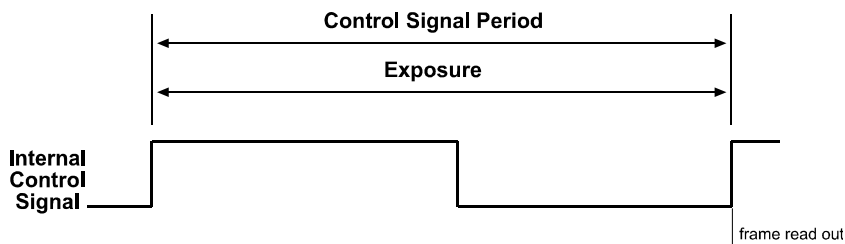

Figure 4-5: Free-run Edge-controlled Mode
- In **free-run edge-controlled mode**, the camera generates a continuous internal control signal based on the "Frame Period" parameter. The pixels are exposed and charge is accumulated over the full period of the internal control signal (rising edge to rising edge). The falling edge of the control signal is irrelevant. The frame is read out and transferred on the rising edge of the internal control signal (see Figure 4-5).